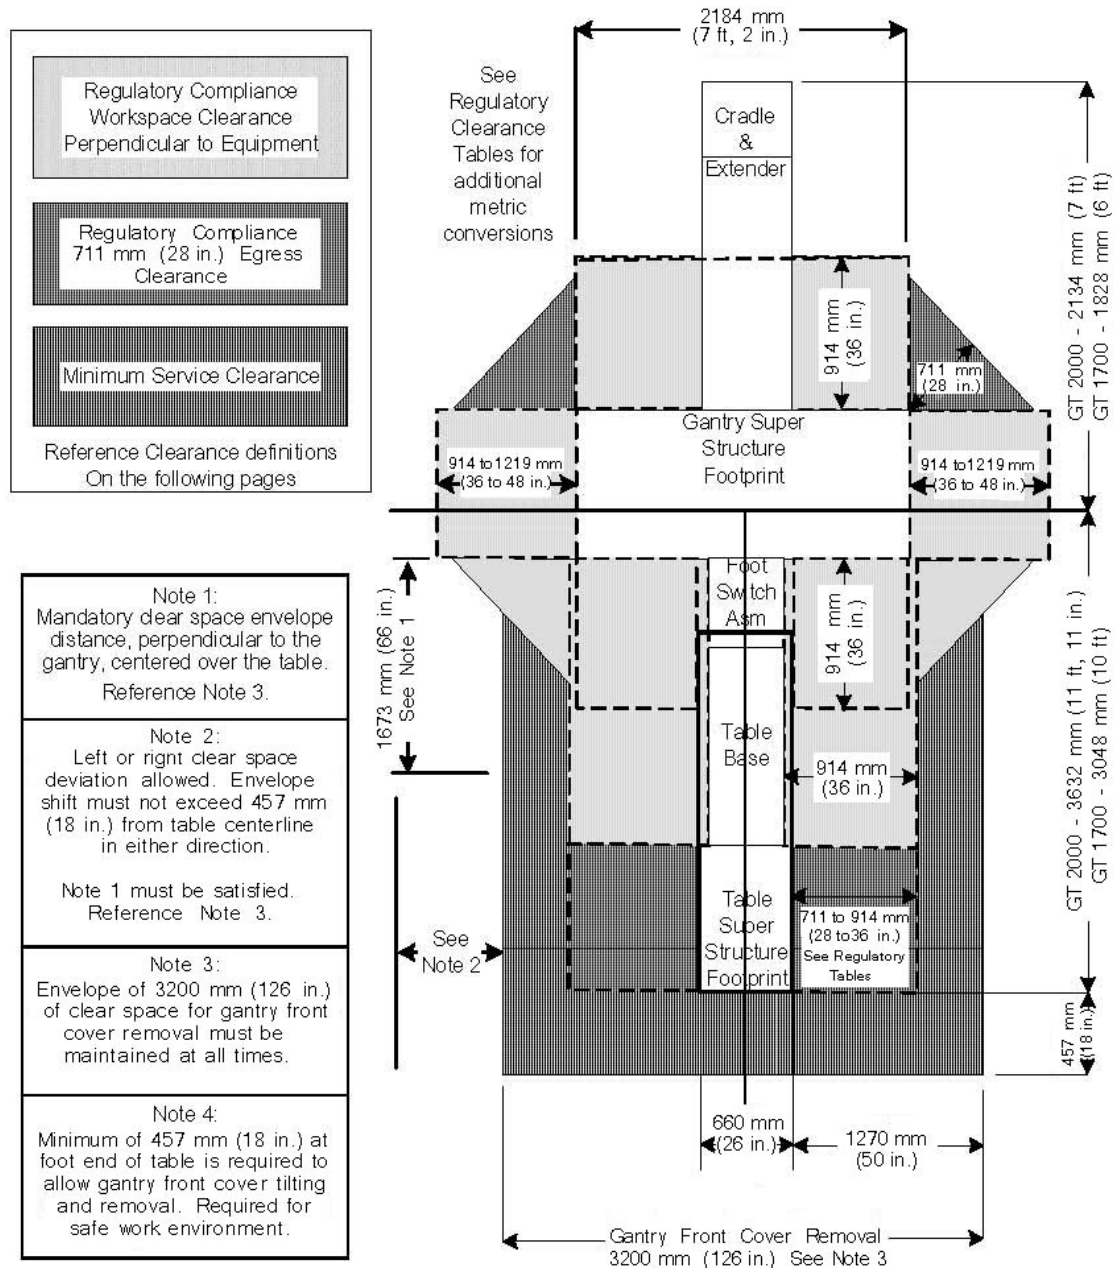
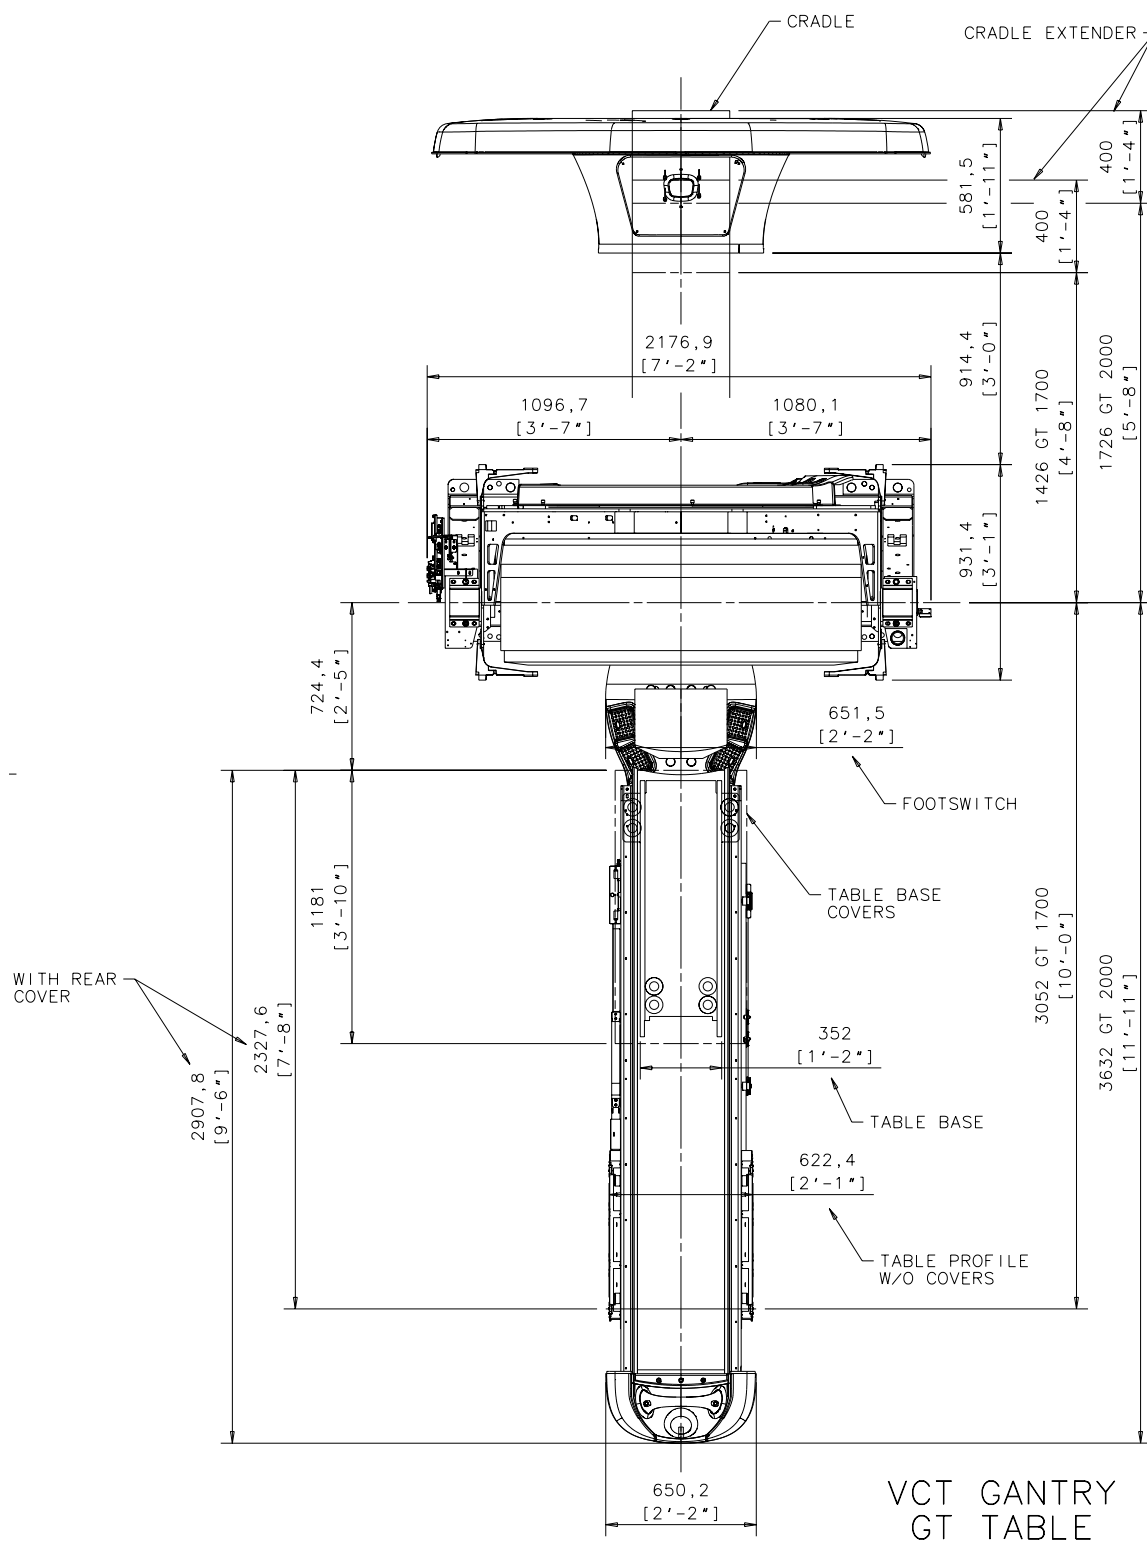

Figure 4-4 Minimum Service Clearance
Figure 4-6 LightSpeed VCT Dimensions without Covers
- Gantry front cover removal requires the use of the Tilting Cover Dollies. These dollies allow the Service Engineer to separate the cover from the gantry, tilt the cover 90 degrees, roll the cover to the foot end of the table, and then tilt the cover an additional 90 degrees, such that the front cover is now upside down relative to the normal system-mounted condition. Figure 4-4 illustrates the minimum clear space strongly recommended to achieve this operation of 3200 mm (126 in.). The gantry front cover must be removed to a position that satisfies the minimum regulatory clearances.
- The gantry rear cover with service dollies installed, requires a width of 2388 mm (94 in.) and a depth of 584 mm (23 in.) of clearance for removal as shown in Section 6.0, Figure 4-6. Sufficient space must be calculated to move the cover either straight back or to one side of the table to satisfy the minimum service clearance shown in Figure 4-4. This means the rear cover cannot violate the workspace on the rear, or on either side of the gantry.